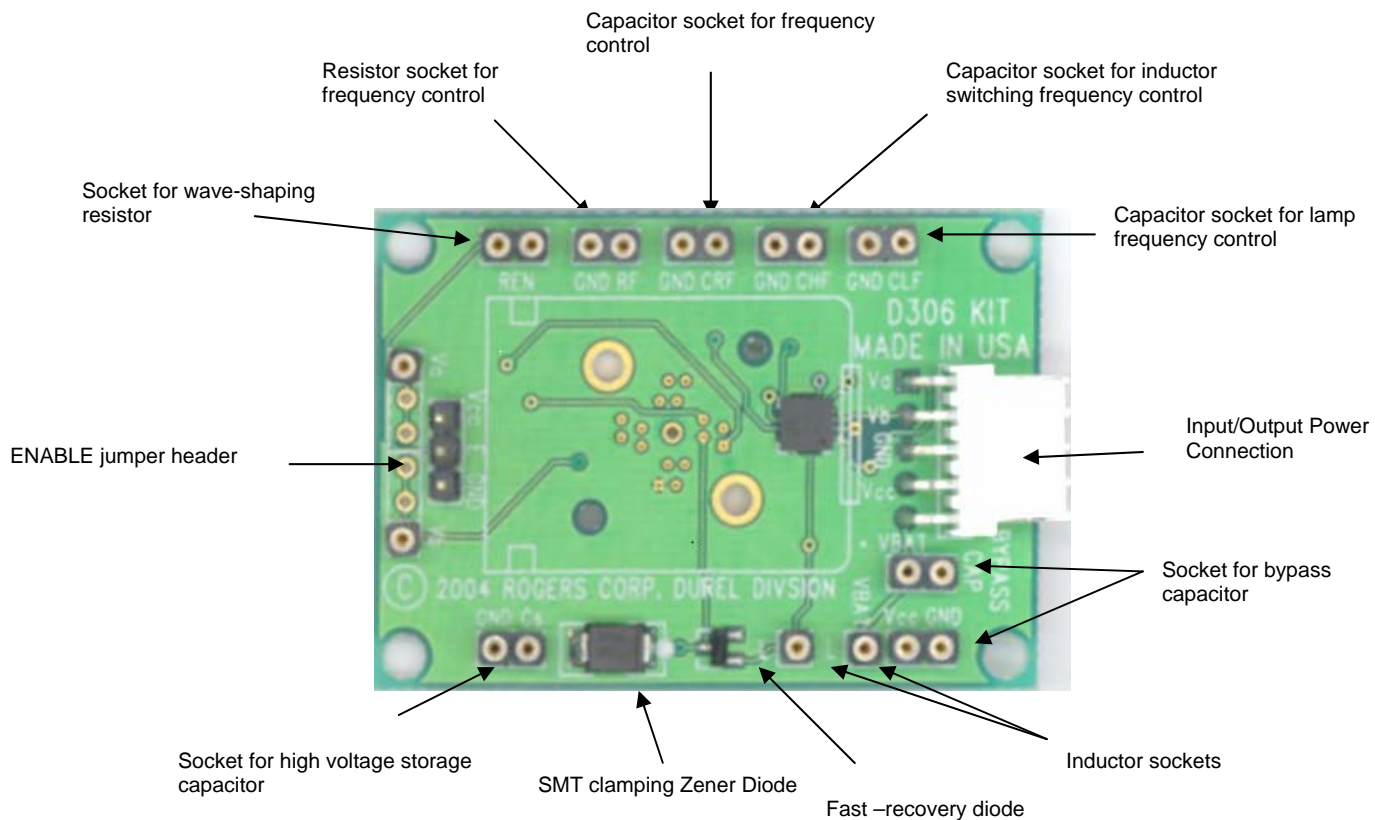

Figure 1: The D306A IC Designer's Kit Board
The D306A Designer's Kit Board (see Figure 1), which is preconfigured with a D306A IC, is a useful tool for optimizing a powerful electroluminescent (EL) lamp driver circuit for any application. Refer to the D306A datasheet for example reference circuits to use as a starting point for your particular design. Simply insert an appropriate value of inductor (L) between the socket labeled as VBAT and the pre-soldered surface-mount diode (SMD) to complete the preconfigured driving circuit.
The user can easily replace all the external components with different values on the Designer's Kit Board in order to achieve design goals. A selection of standard values of resistors, capacitors and inductors are included in the D306A Designer's Kit for your use. The value of timing components (CLF, CHF, and Rf) may be replaced in the labeled sockets, as shown in Figure 1. The high voltage storage capacitor (Cs), stabilizing capacitor (CRf), and wave-shaping resistor (Rd) may be changed at the designer's discretion as well. In addition, sockets for optional components can be found on the kit board for different design options. A bypass capacitor between Vcc and ground (GND) should be connected to absorb electrical noise in the DC input. To maintain peak voltage output within maximum ratings, a 200V Zener diode is connected in parallel to Cs as a voltage clamp. A fast-recovery SMD is already attached to the board, but the designer has the option to remove this component and replace it with a different fast-recovery diode connected to the labeled sockets shown in Figure 1. Additional specific design support is also available through Durel's global sales engineering team upon request.